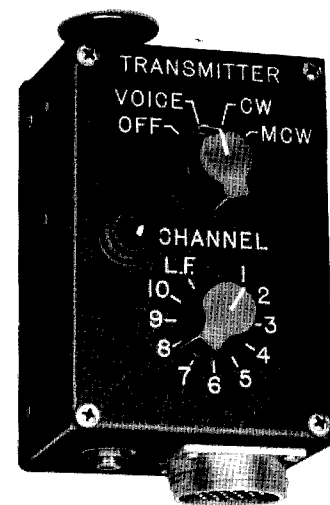

Figure 1-5. Type C-87/ART-13 Pilot's Control Unit
*a.* The channel upon which transmission is desired and the type of emission may be selected and controlled from either the Type T-47/ART-13 Transmitter panel, the Type C-87/ART-13 Pilot's Control Unit (figure 1-5.), the Type C-740/ART-13 Pilot's Control Unit (figure 1-5A.) or other remote control units.